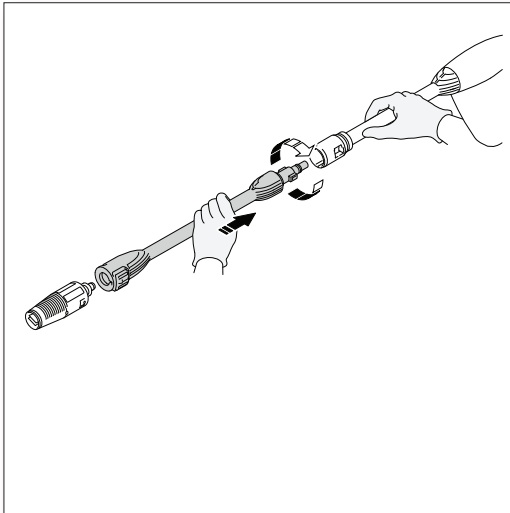

Fig. 8
- 8. Connect extension to gun first by pushing together and turning clockwise simultaneously. Twist collar clockwise to lock in place (**Fig. 8**). Connect nozzles or detergent bottle by pushing together and twisting (**Fig. 8**). To remove push together and turn counter clockwise.